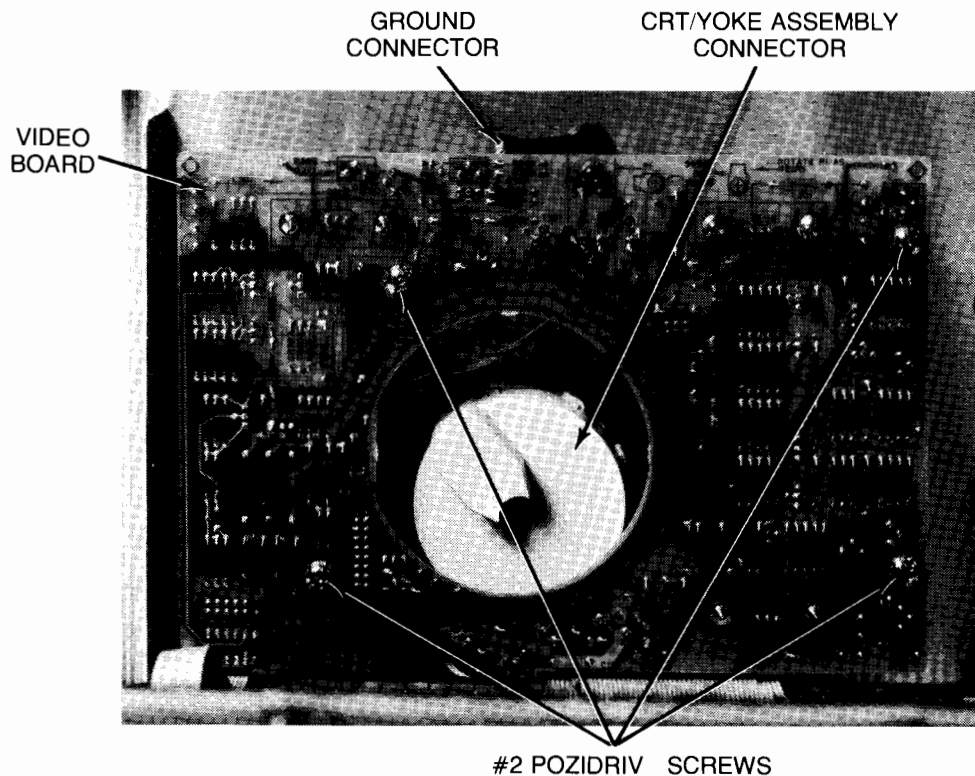

Figure 4-89. Removing Video Board
6. Disconnect the ground connector from the spade lug at rear top of video board (Figure 4-89).
7. Remove four #2 Pozidriv screws from video board (Figure 4-89).
10. Disconnect CRT/yoke assembly connector (Figure 4-89) from CRT/yoke assembly and remove video board.